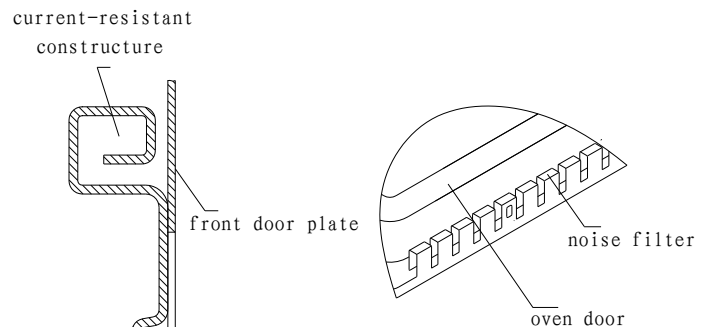

Fig. 2-9
2) The widely used seal measurement at present is to assemble a current – resistant construct between the door and the doorframe. FIG.2-9 is the typical construction fig of the door. It was designed according to the theory of “THE TRANSFERING LINE ONE-FOURTH WAVE LENGTH IMPEDANCE CHANGER”. Although there is no connecting point from a mechanical point. It is sealed at the seam from the point of electricity, so it is called “CURRENT-RESISTANT”. Recently, with the installation of noise filter in the current resistant trough, the effect to restrain the microwave leakage (include high subharmonic) have been much improved.